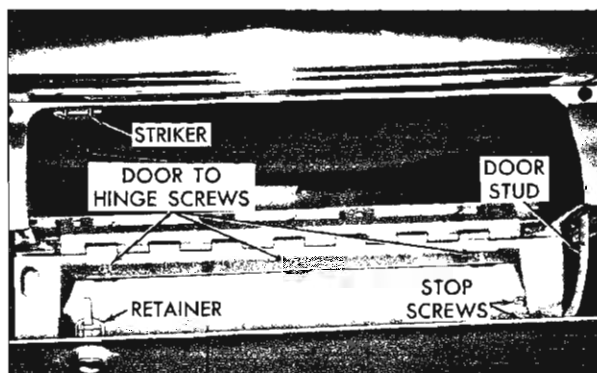

Fig. 2-11 Instrument Panel Compartment Door
2. Remove attaching screws at door hinge and door stop from door inner panel and remove door (Fig. 2-11).
3. The compartment door lock striker may be adjusted by loosening attaching screws and moving striker to desired position (Fig. 2-11).
1. Remove hinge stop attaching screws, (Fig. 2-11), disengage stop assembly from instrument panel door and remove stop.
1. Open compartment door, remove screw from retainer and remove knob assembly (Fig. 2-11).